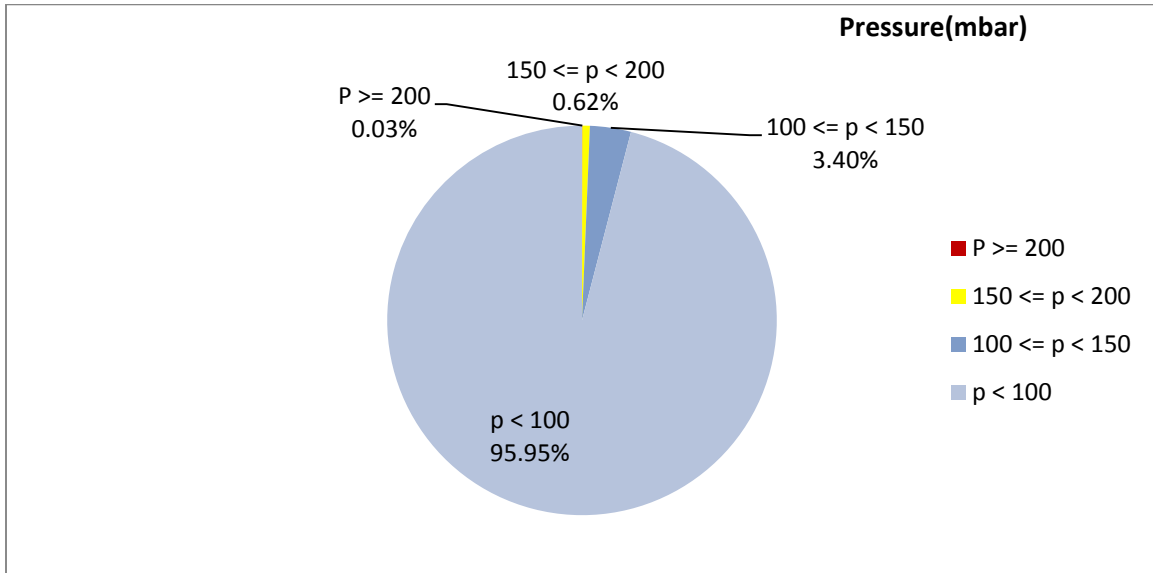

Figure 1- Pressure distribution over the working hours
Notice: Figure 1 and 2 data belong to DPF existence period (Aug 12th, 13th, 14th).
- As depicted in figure 1, only 0.03% of total working time pressure is above 200 mbar and 0.65% above 150mbar.